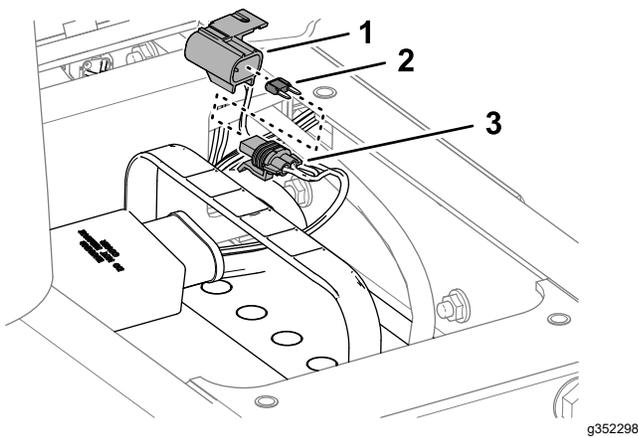

Figure 71
2. Remove the cap from the in-line fuse holder (Figure 71).